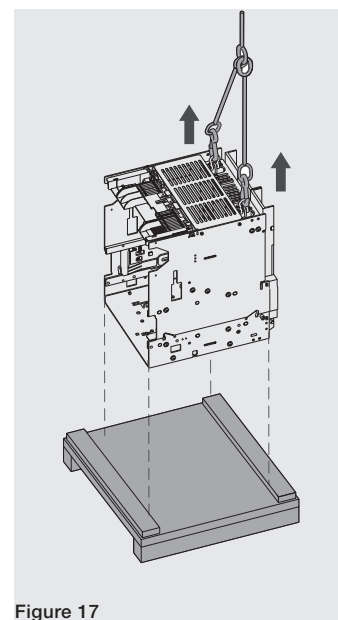

Figure 17
1. Raise the fixed part from the base of the packaging with the aid of the two hooks supplied with the fixed part. See Figure 17.